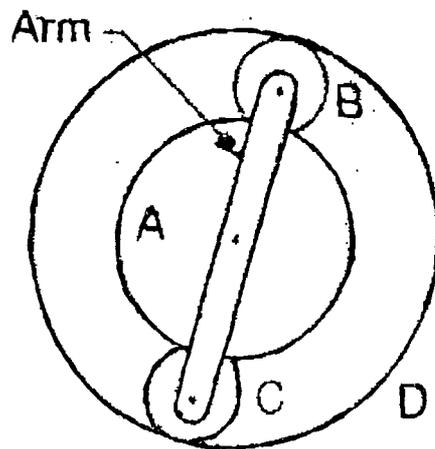

Fig 14 (a)
14. (a) (i) An epicyclic gear train is shown in the Fig. 14 (a). How many revolutions does the arm makes,